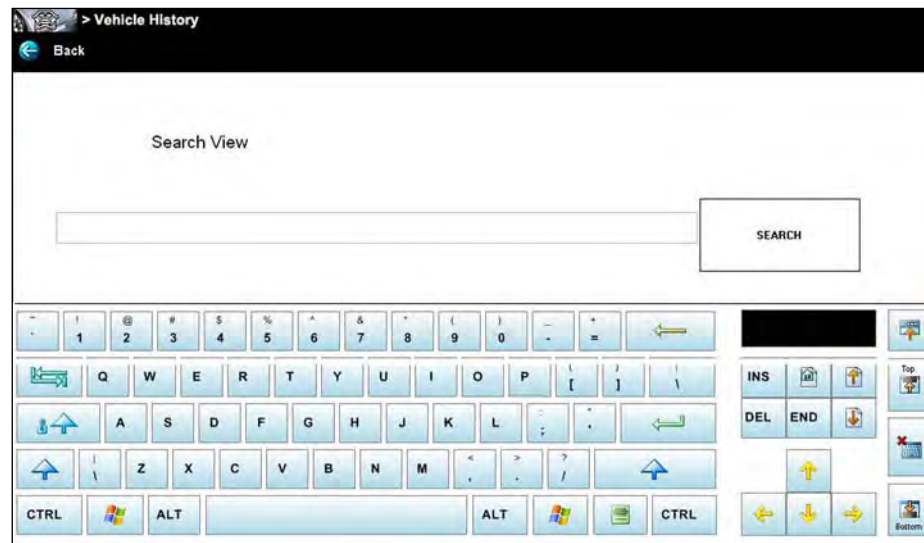

Figure 10-3 Sample Search dialog box
2. Tap within the text field of the search window to open the virtual keyboard (Figure 10-3).